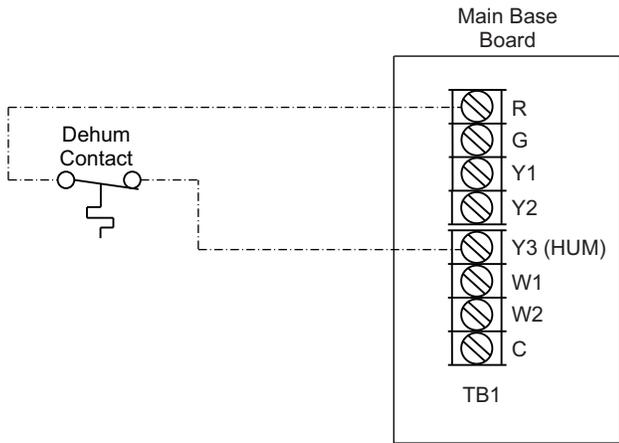

Fig. 45 — Humidistat Connections to MBB (2-Stage SystemVu Units)
5. For 2-Stage SystemVu controller units connect one of the leads from the 2-conductor cable to the Y3 (HUM) terminal on the MBB (Main Base Board). Connect the other lead to the R terminal on the MBB. See Fig. 45.